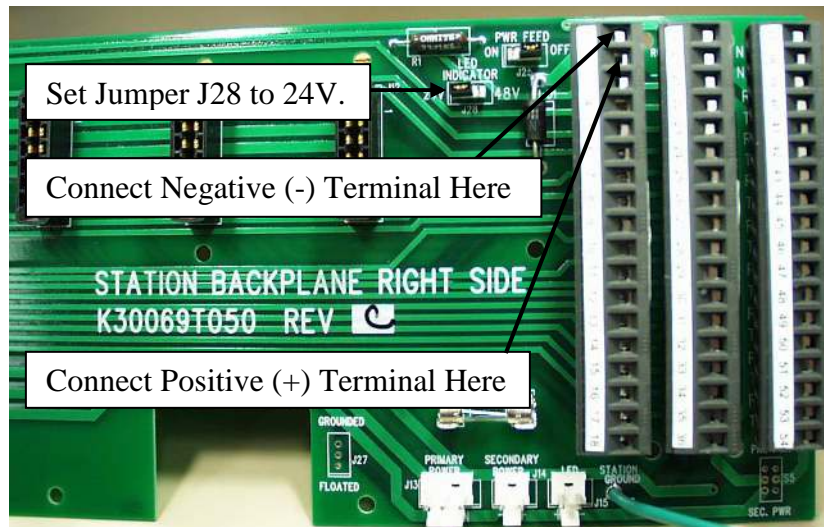

Figure 5: Connecting 24V External Power Supply
- (e) Three (3) 18-position, push-on connector blocks (RM1, RM2, RM3) located in the lower left corner of the card shelf are used to terminate the CO/Remote cable pairs. (See Figure 5)
The isolation system is designed around the protection practice of IEEE Standard 487-1992, and it is recommended that this configuration be used in any application environment where surges are possible. The 65 kV BIL of the isolation system is assured and the dedicated cable receives similar BIL protection and insulation protection coordination between shield and cable conductors. See Figure 5.